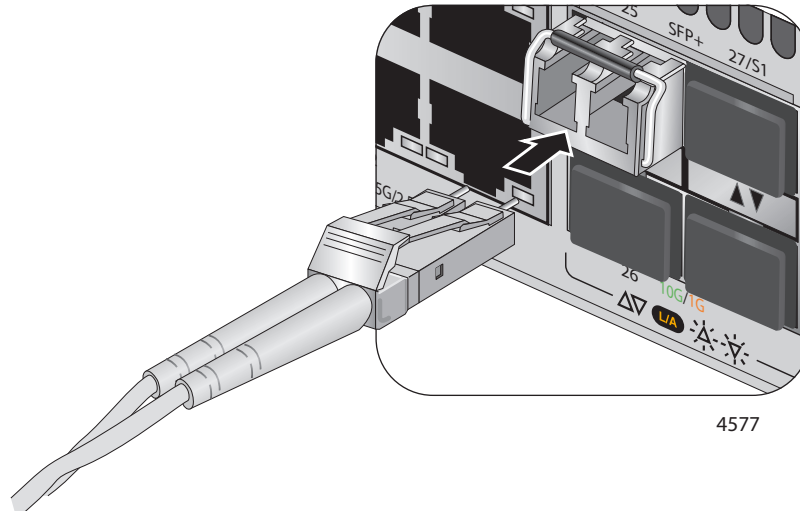

Figure 45. Connecting a Fiber Optic Cable to an SFP or SFP+ Transceiver
8. Connect the fiber optic cable to the transceiver, as shown in Figure 45. The connector on the cable must fit snugly into the port, and the tab must lock the connector into place.